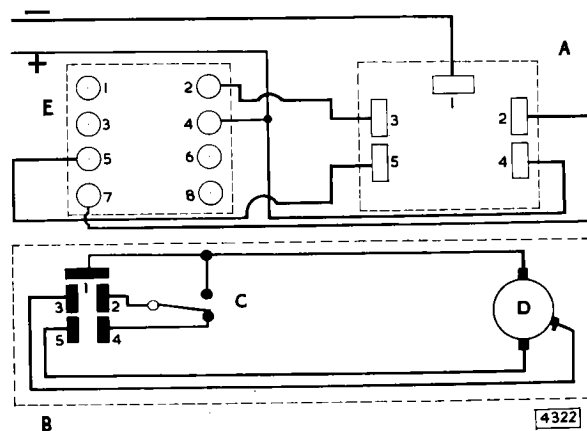

Fig. 23. 15W Wiper wiring diagram.
**Note:** Since the motor is of permanent magnet design, the direction of rotation of the armature depends on the polarity of the supply of its terminals. If it is necessary to run the motor while it is removed from the vehicle, the negative supply cable must be connected to motor terminal number 1 and the positive supply cable to terminal number 5 for normal speed or terminal number 3 for high speed (see Fig. 23).